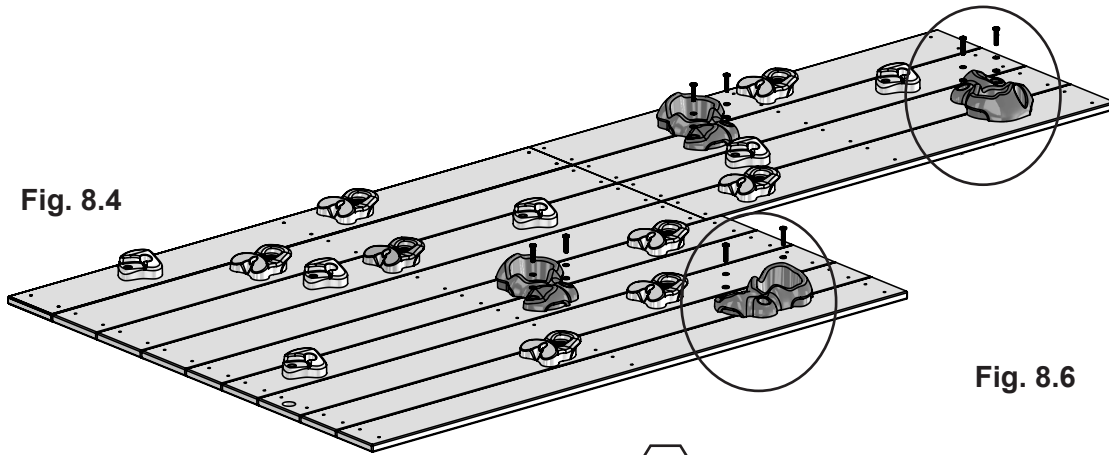

Fig. 8.4
**B:** Place 4 Climbing Crater Rocks on Vertical Rock Boards as shown in (fig. 8.4). It is important to ensure that the boards are flush and tight together and that rock placement is correct. Insert bolts loosely into the two designated pre-drilled holes to help keep rocks in place and mark the location of the 3rd hole on the adjacent Vertical Rock Board. Remove Rock and drill a 3rd hole using the 3/8" drill bit provided. (Fig. 8.4, 8.5 and 8.6)